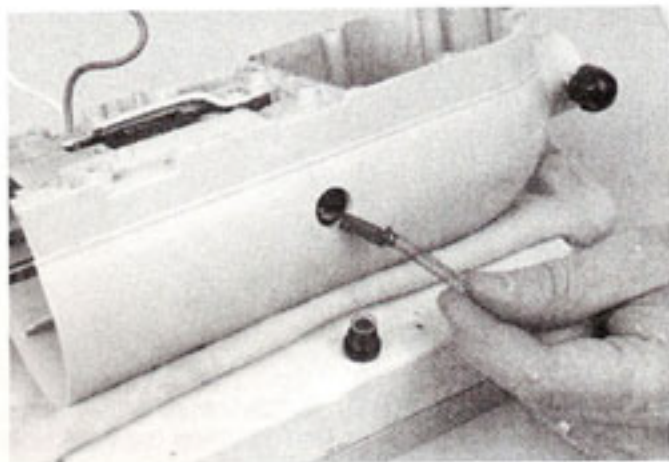

Fig. 43
- K. If the old brushes are more than  $\frac{5}{16}$ " long, assemble them in the brush holders. From the back of the unit put brush marked "right" in right side brush holder, be sure the side marked "up" is at the top. Push brush in and lock it in place with a brush holder screw cap (Fig. 43). Place left hand brush in the mixer in the same way.